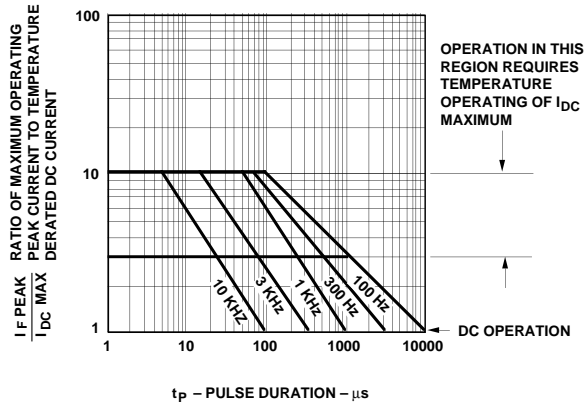

Figure 7. Maximum Tolerable Peak Current vs. Pulse Duration - HER.
- See Figure 7 to establish pulsed conditions.